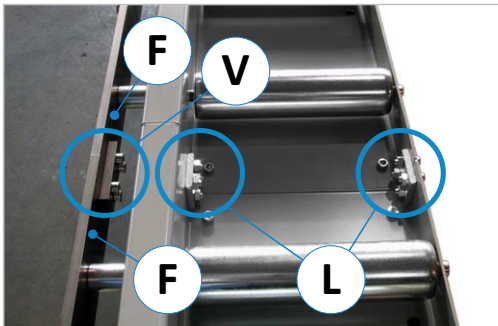

Figure 9: Connecting flat bar and segments
- Afterwards the delivered roller conveyor segments must be connected to each other on the front and rear side with the two connecting lugs (L) by screwing them together (see ⇒ Figure 9).
⇒ Figure 9: Screw the vertically mounted guide flat bars (F) of the roller conveyor tightly together with the screwed-on connecting bracket (V). When attaching the connecting bracket (V), make sure that the flat bars are exactly flush with each other → The air gap between the flat bars should be as small as possible.
**EXACT B:** The roller track segments are bolted together (as shown in ⇒ Figure 9) via the connecting lugs (L). Then the C-profile for guiding the sliding carriage must be mounted to the roller track. **Note:** The C-profile is supplied in one piece for the entire roller track length.